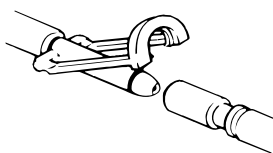

Figure 50: Clik-Tite open
- b. If you have **Clik-Tite** hoses, make sure that the connectors and clamps are open (Figure 50 on page 64).